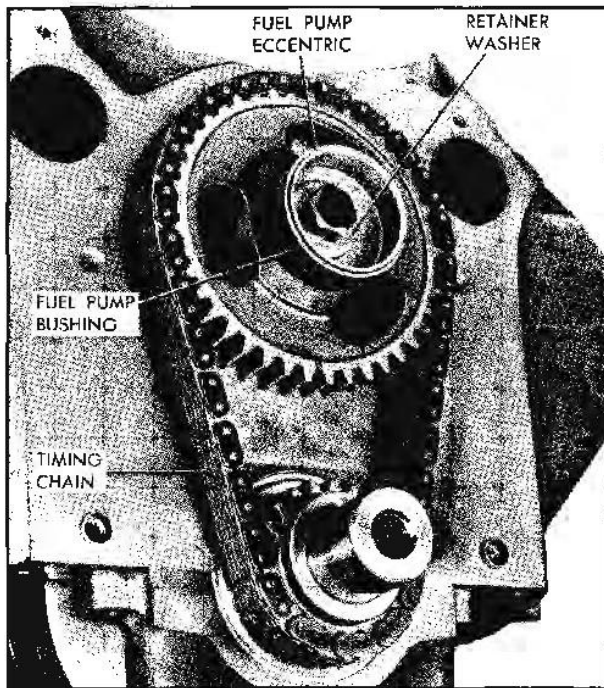

Fig. 6-119 Front of Engine With Timing Chain Cover Removed
14. If new fuel pump eccentric and bushing are to be installed, remove camshaft sprocket retainer bolt and retaining washer and remove the eccentric and bushing. Place fuel pump bushing over eccentric with rolled flange toward camshaft sprocket (Fig. 6-119).